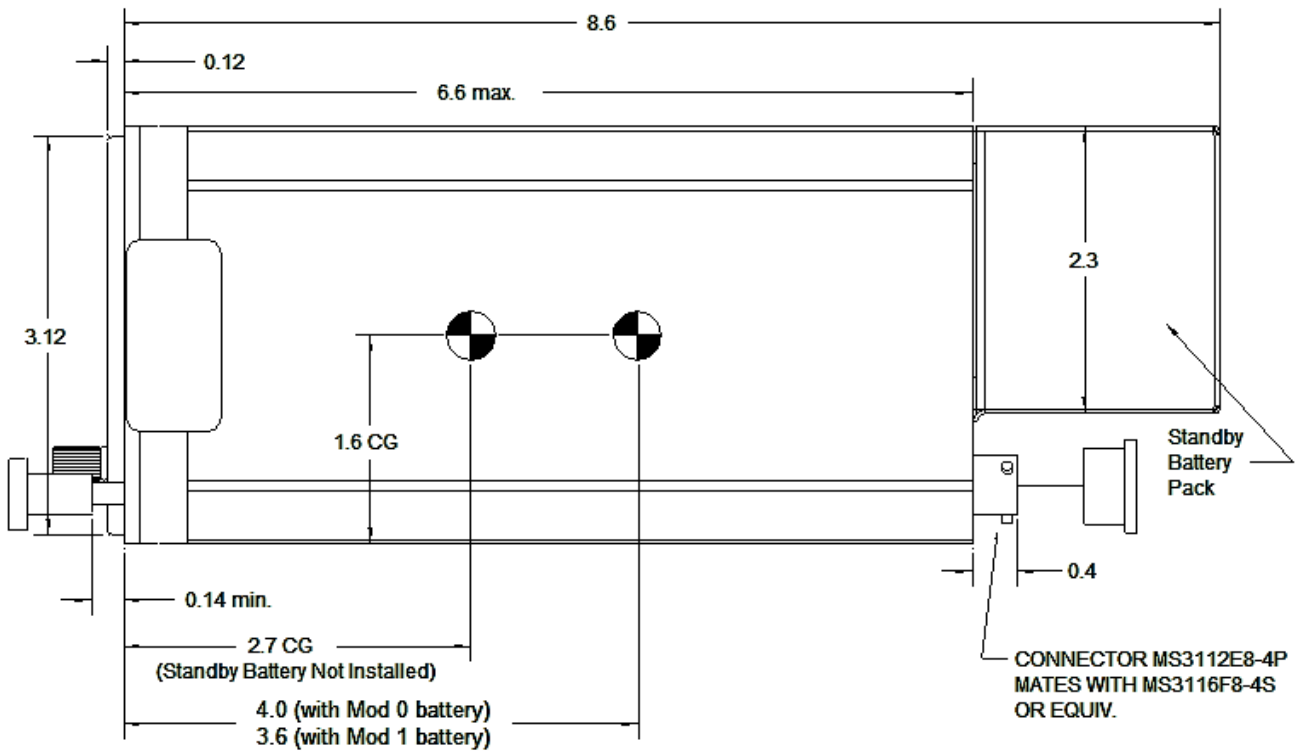

Figure 2.4 Outline Drawing
- A. Refer to Figure 2.4 for installation dimensions and electrical information.